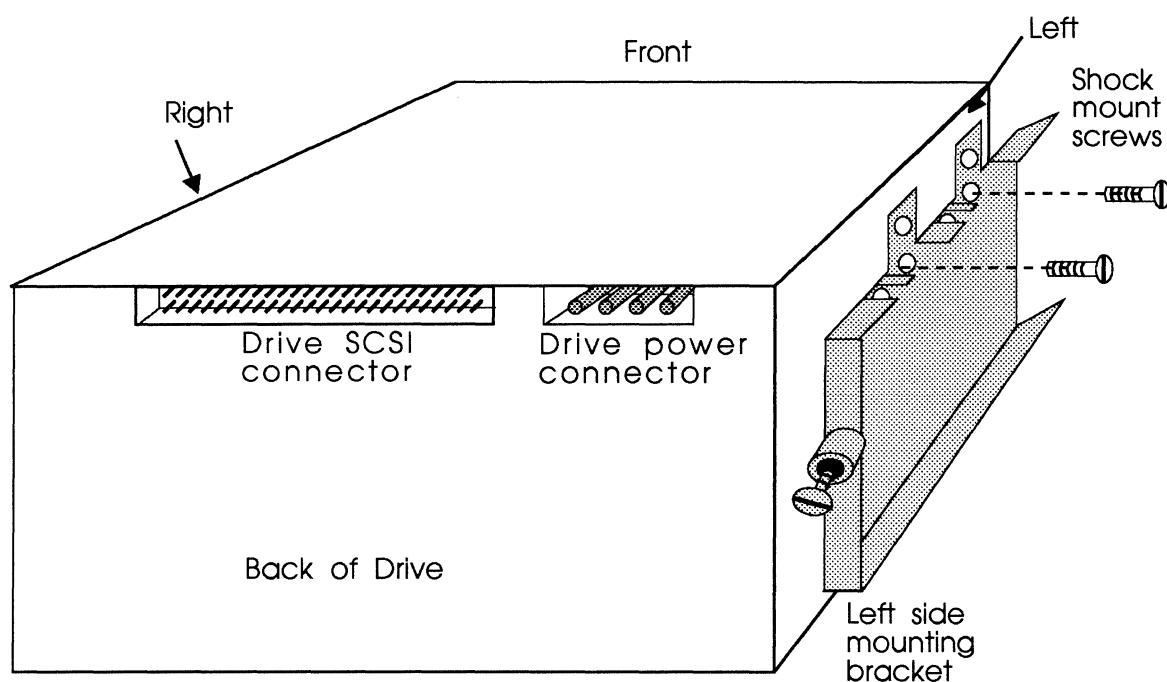

Figure 5-4: Mounting the brackets to the drive
- 7 Locate the mounting bracket for the left side of the disk drive. Put two screws into left side of the disk drive through the two holes in the mounting bracket (as indicated in Figure 5-4) to secure the mounting bracket to the drive.
- 8 Locate the mounting bracket for the right side of the disk drive. Put two screws into the right side of the disk drive through the two holes in the mounting bracket (as indicated in Figure 5-4) to secure the mounting bracket to the drive.